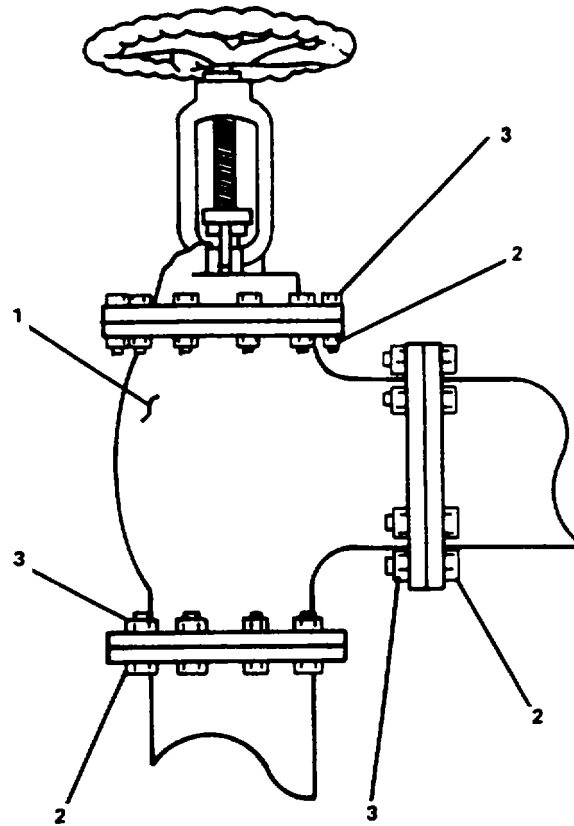

Figure 2-91. Replace Angle Globe Valve.
- a. Place utility pail under valve (1, Figure 2-91).
- b. Remove twelve flange nuts (3) and bolts (2).